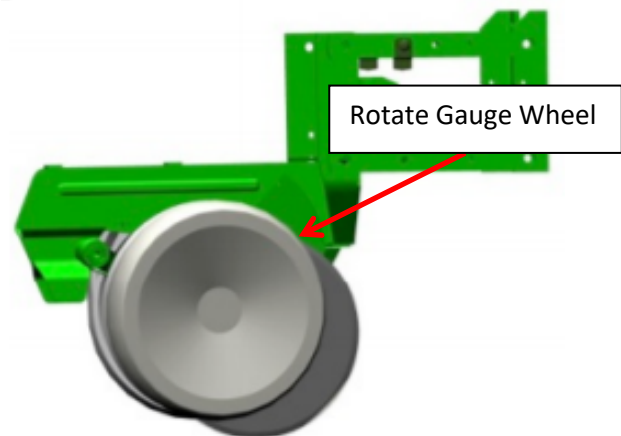

Figure 3
Step 3: Calibrate the 2020 SeedSense Lifted/Lowered Position by going to **Setup-Systems-Calibrations**. Once the Calibration is complete verify that when the 2020 SeedSense shows a '**Lifted**' position the row unit gauge wheels can be turned by hand. (Figure 3) This will prevent accidental lift status while planting.